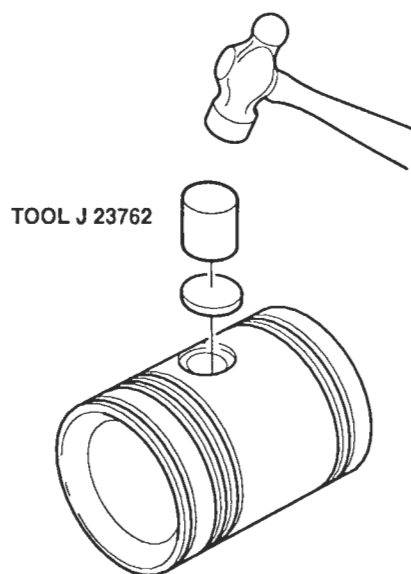

Figure 18. Installing Piston Pin Retainer
10. Place a new piston pin retainer in position. Then, place the crowned end of installer J 23762 against the retainer and strike the tool just hard enough to deflect the retainer and seat it evenly in the piston (Figure 18.)